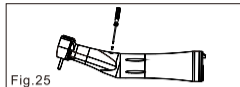

Fig.25
- 1) First use a Phillips screwdriver to unscrew the back screw of the Geared Angle Handpieces, as shown in Figure (Fig. 25).